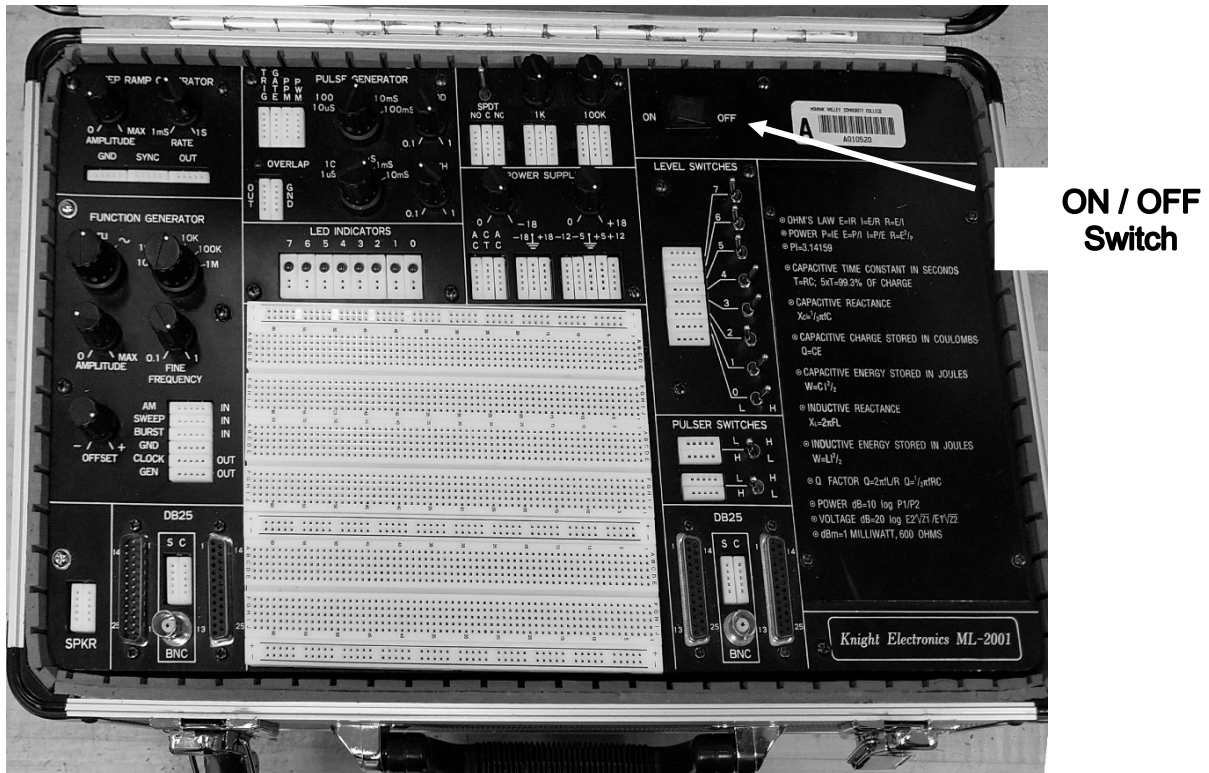

Figure 1 - Knight electronics ML-2001 logic trainer
1.2. The power switch for the trainer is located at the upper right side of the panel (see figure 1). Turn on power to the trainer. The switch should light up and you will hear a cooling fan start. If the light doesn't go on, check the power source and make sure the cord is securely plugged in on both sides. Turn off the trainer for now.